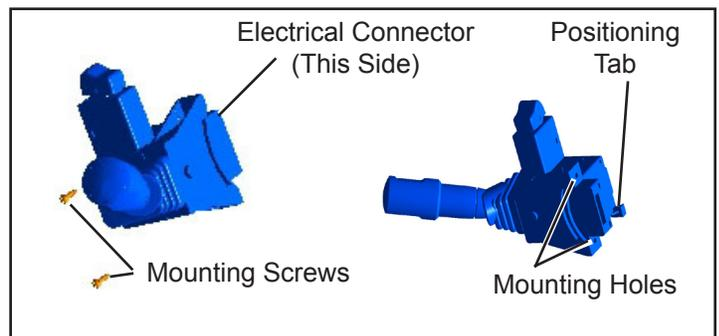

Figure 9 Turn Signal
11. With a long handle Torx driver, remove the two turn signal screws that secure the turn signal housing to the steering column. Refer to Figure 9.
17. Remove and discard the four 5/16" screws (2) that secure the top portion of the steering column to the steering column housing and the four 8mm flange nuts (3) that secure the bottom of the steering column to the firewall.